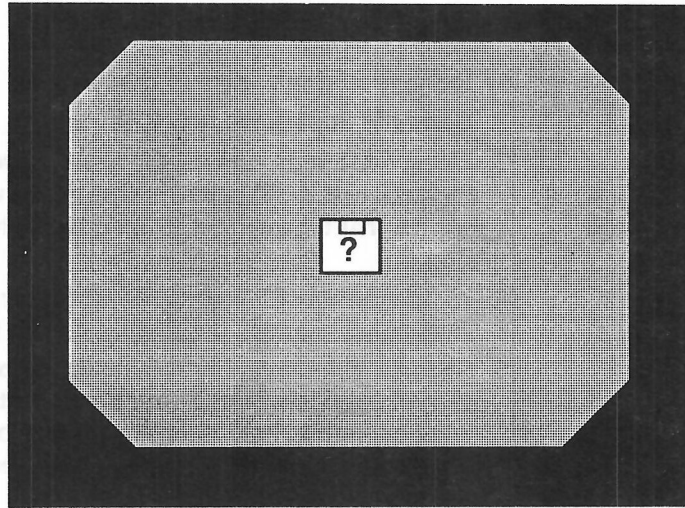

Figure 9-5 This kind of foldover means the yoke is too far back.
10. Reconnect the power cord and switch on the computer. It's not necessary to boot. Observe the screen. If there's any foldover around the edges as illustrated in Figure 9-5, it means the yoke is too far back. Using only one hand, fix it by gently sliding the yoke up onto the neck as far as it will go. **Never use two hands when working around the CRT.** Always keep one hand safely behind your back or put it in your pocket.